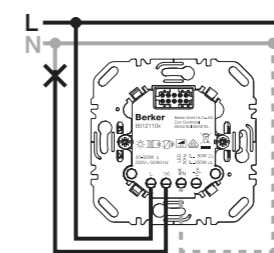

Figure 3: Switch insert 1gang
■ Connect the switch insert and optional extension units according to the connection diagram (Figures 3 to 6).
ⓘ The switch insert 1gang, possesses an optional N terminal (Figures 3 and 4). Operation without neutral conductor possible.